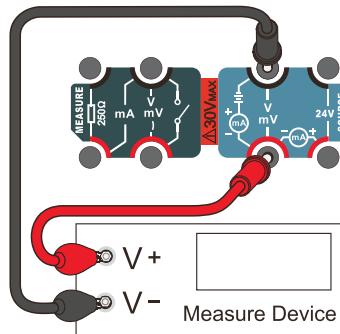

Figure 9.15 V (mV) Output
1. In mV voltage source function, user can refer to Figure 9.15 to connect all the test leads and begin to source.
1. In the source voltage function, user can refer to Figure 9.15 to connect all the test leads and begin to source.